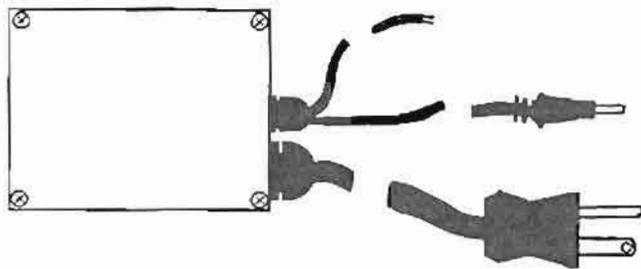

Figure 1-4. Power supply.
- c. *Power supply (fig 1-4).* The multivoltage power supply provides for operation of the ventilator on multiple alternating current (AC) and direct current (DC) power sources. It also serves as a source of electrical power for recharging the ventilator's internal batteries.